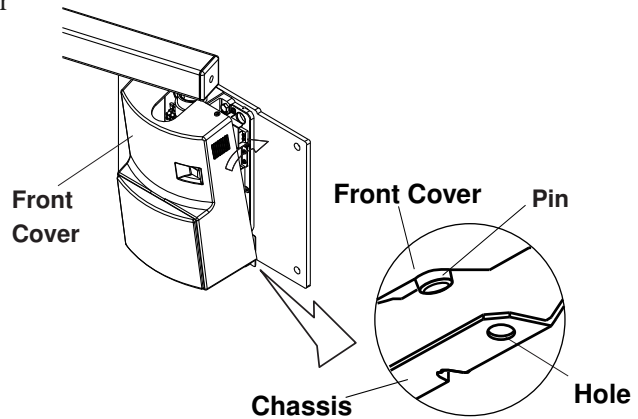

Fig. 3-9A Setting front cover on chassis
1. Set the pins located on the bottom of the front cover into holes on the bottom of metal chassis, and then push the top side toward the wall to close. (Fig.3-9A)